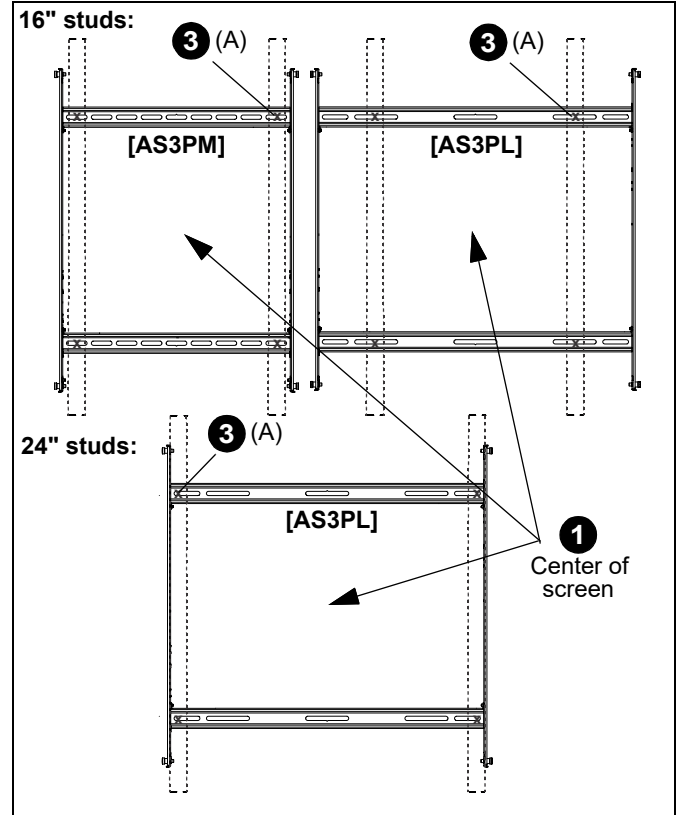

Figure 8
2. Locate the closest stud to the center of the TV screen, then locate the closest stud to the left and/or right of the selected location. (See Figure 8)
3. Line up the slots in the wall rail assembly (A) with the two studs previously identified. (See Figure 8)